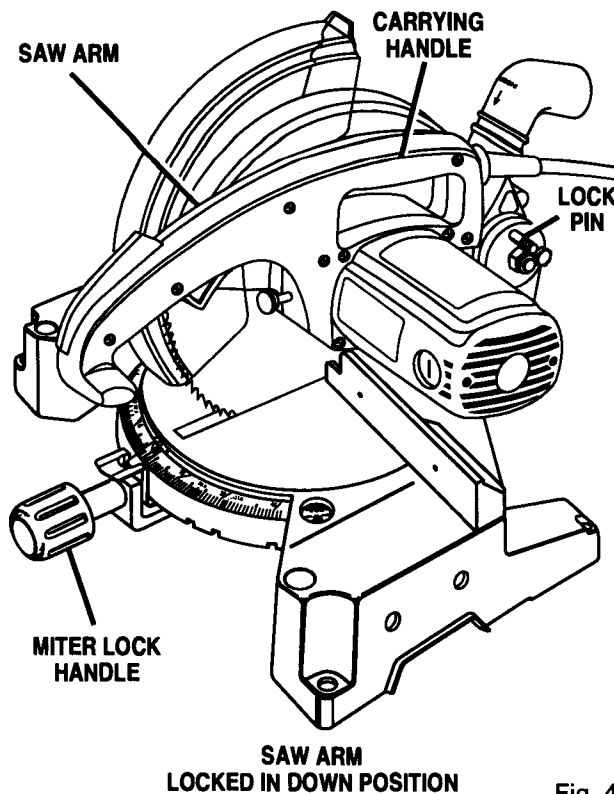

Fig. 4
- Your saw has been shipped with the saw arm locked in the down position. To release saw arm, push down on top of saw arm and pull out the lock pin. *See Figure 4.*
See Figure 4.
For convenience when carrying or transporting your miter saw from one place to another, a carrying handle has been provided as shown in figure 4. To transport, turn off and unplug your saw, then lower the saw arm and lock it in the down position. Lock saw arm by depressing the lock pin.